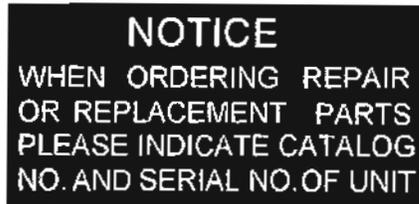

Figure 1-7. Information decal.
(4) A decal (located on the bottom of the centrifuge) providing replacement parts information is depicted in figure 1-7.